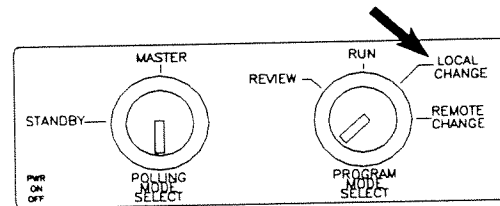

Figure 2.9 Program Mode
- ✓ Turn the Program Mode keyswitch to **Local Change**. (Figure 2.9)